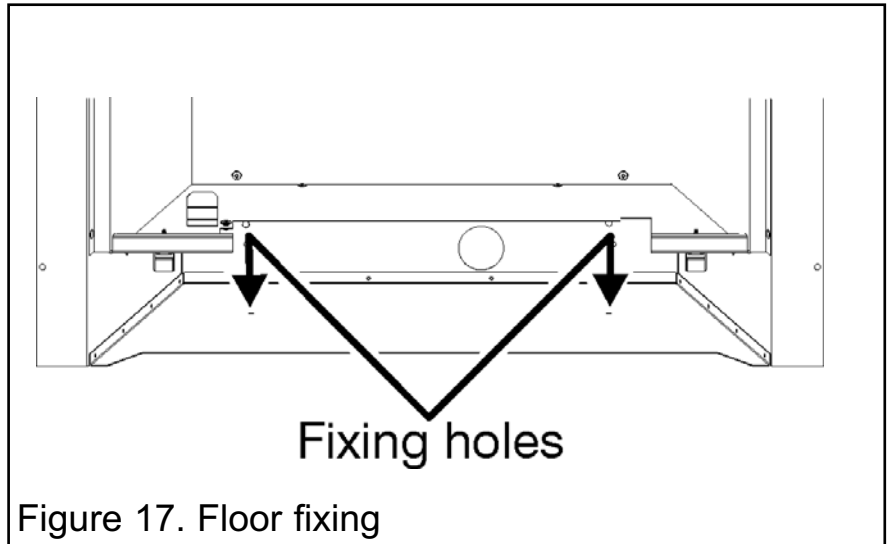

Figure 17. Floor fixing
5. Mark the base of the fireplace through the holes in the fire base (See figure 17).